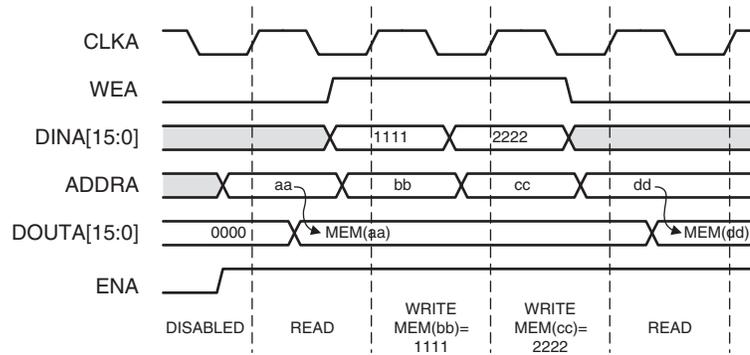

Figure 11: No Change Mode Example
- No Change Mode:** In NO\_CHANGE mode, the output latches remain unchanged during a write operation. As shown in Figure 11, the data output is still the previous read data and is unaffected by a write operation on the same port.